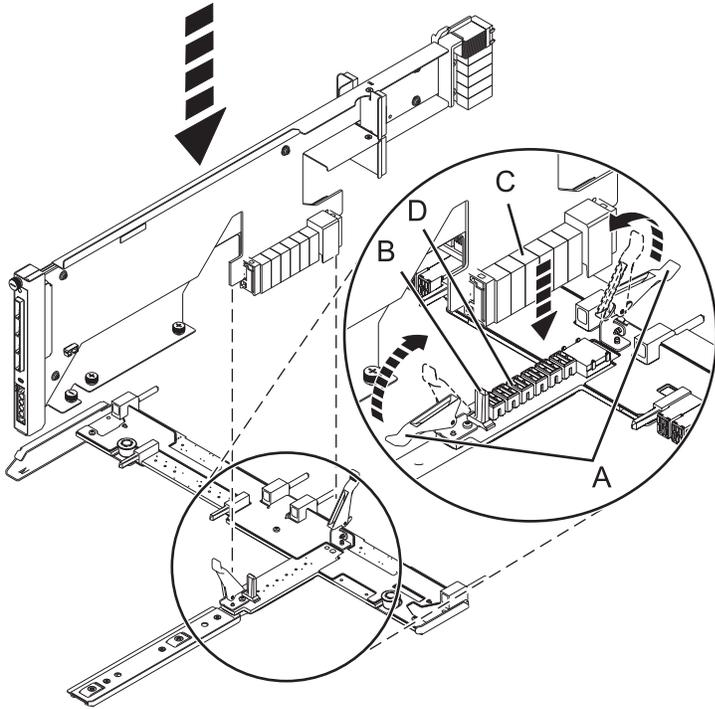

Figure 70. Installing the SAS conduit card into the midplane
- a. Place the card connector (C) on the midplane connection (D) using the guide track (B) to ensure a good connection.
- b. Lift the handle (A) to seat and secure the SAS conduit card to the midplane as shown in Figure 70 on page 123.